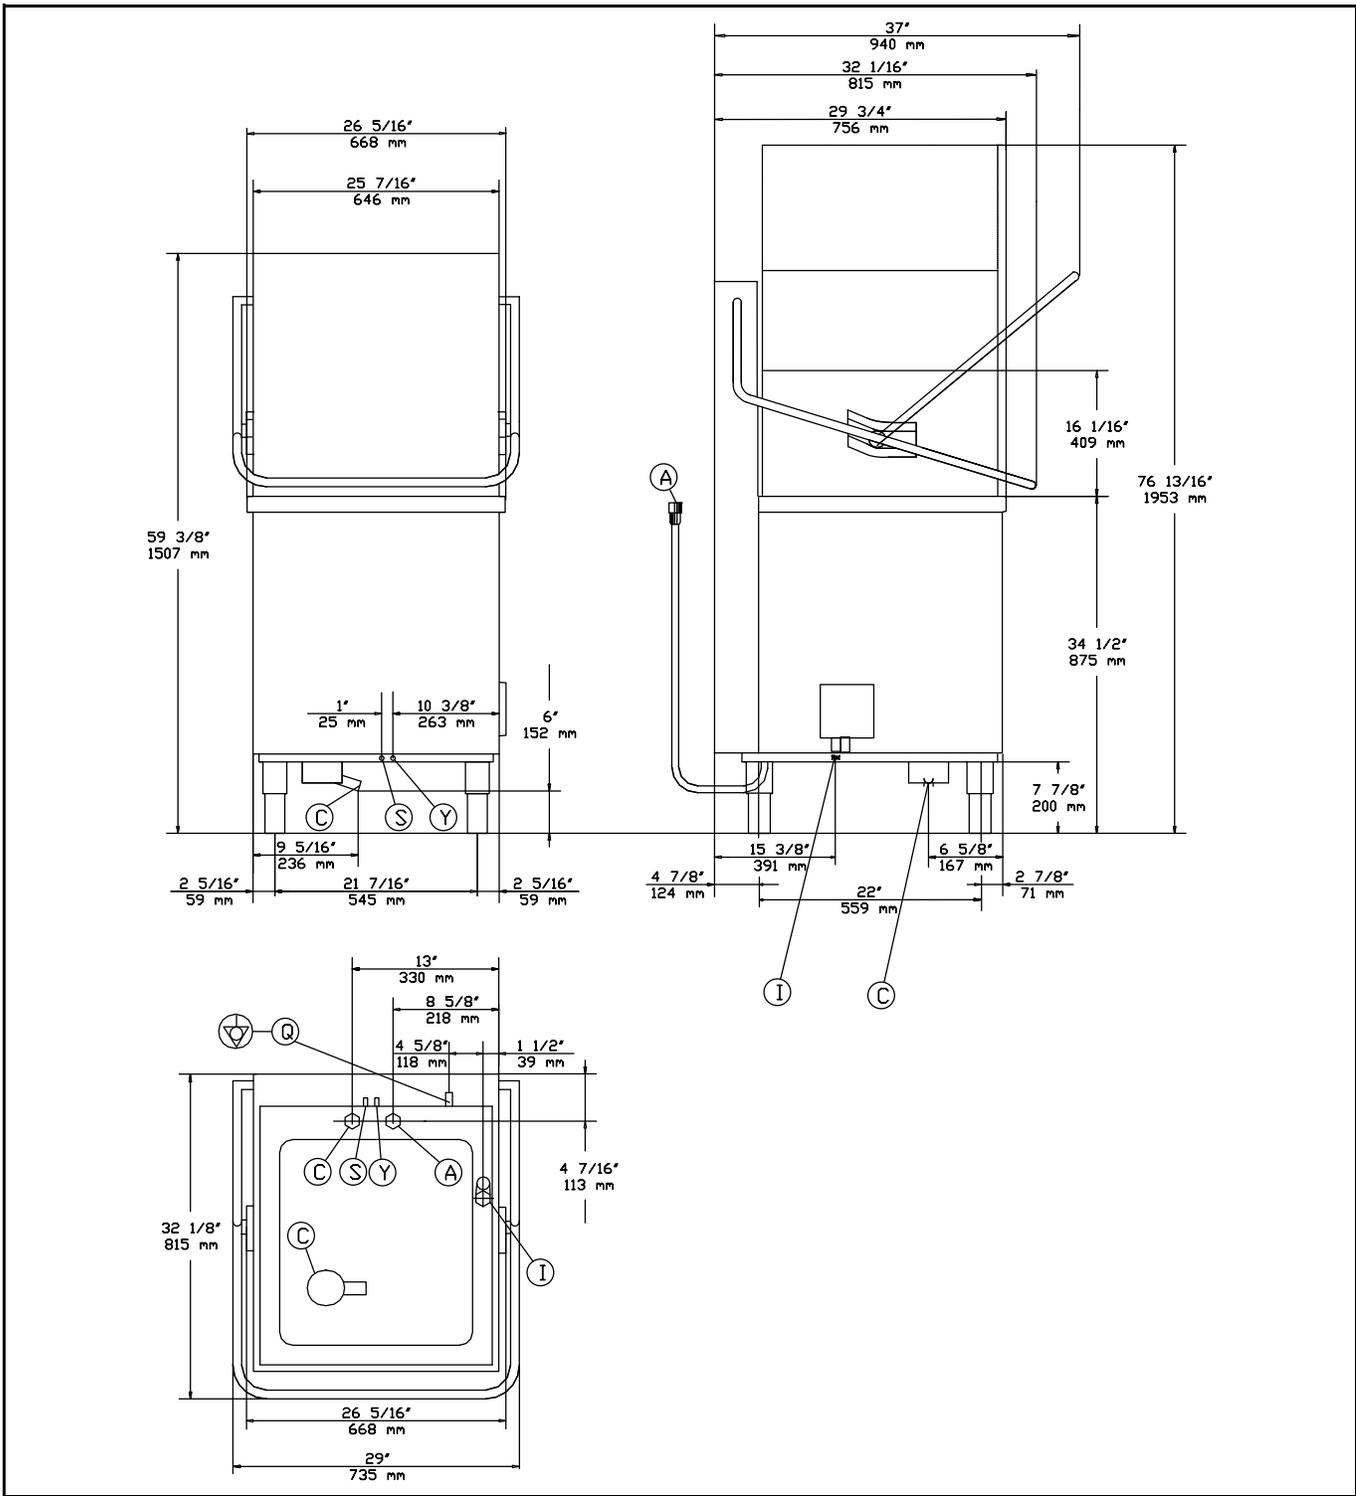
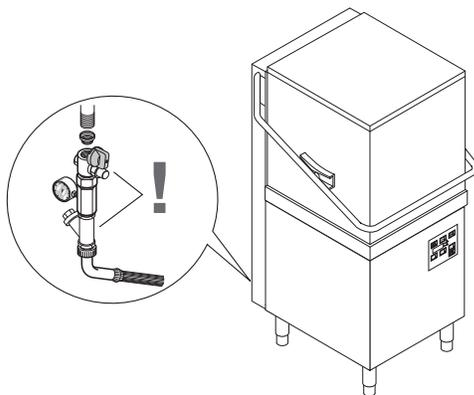

Figure 4
Figure 6
Legend Figure 4
- Connect the appliance water supply pipe “A” (Figure 4) (keeping with local plumbing codes) to the incoming water supply. Install a shutoff valve, Y-Strainer and a pressure gauge between the appliance and the incoming water supply of the unit (Figure 6).
connect the waste outlet pipe “C” (Figure 4) to the main drain pipe, using a trap, or place the outlet pipe over an “S” trap set into the floor.
- The appliance requires a ground connection to the unit ground screw located at the rear of the unit marked “Q” (Figure 4) in the manual and marked with the symbol “⚡” on the unit. The ground wire must